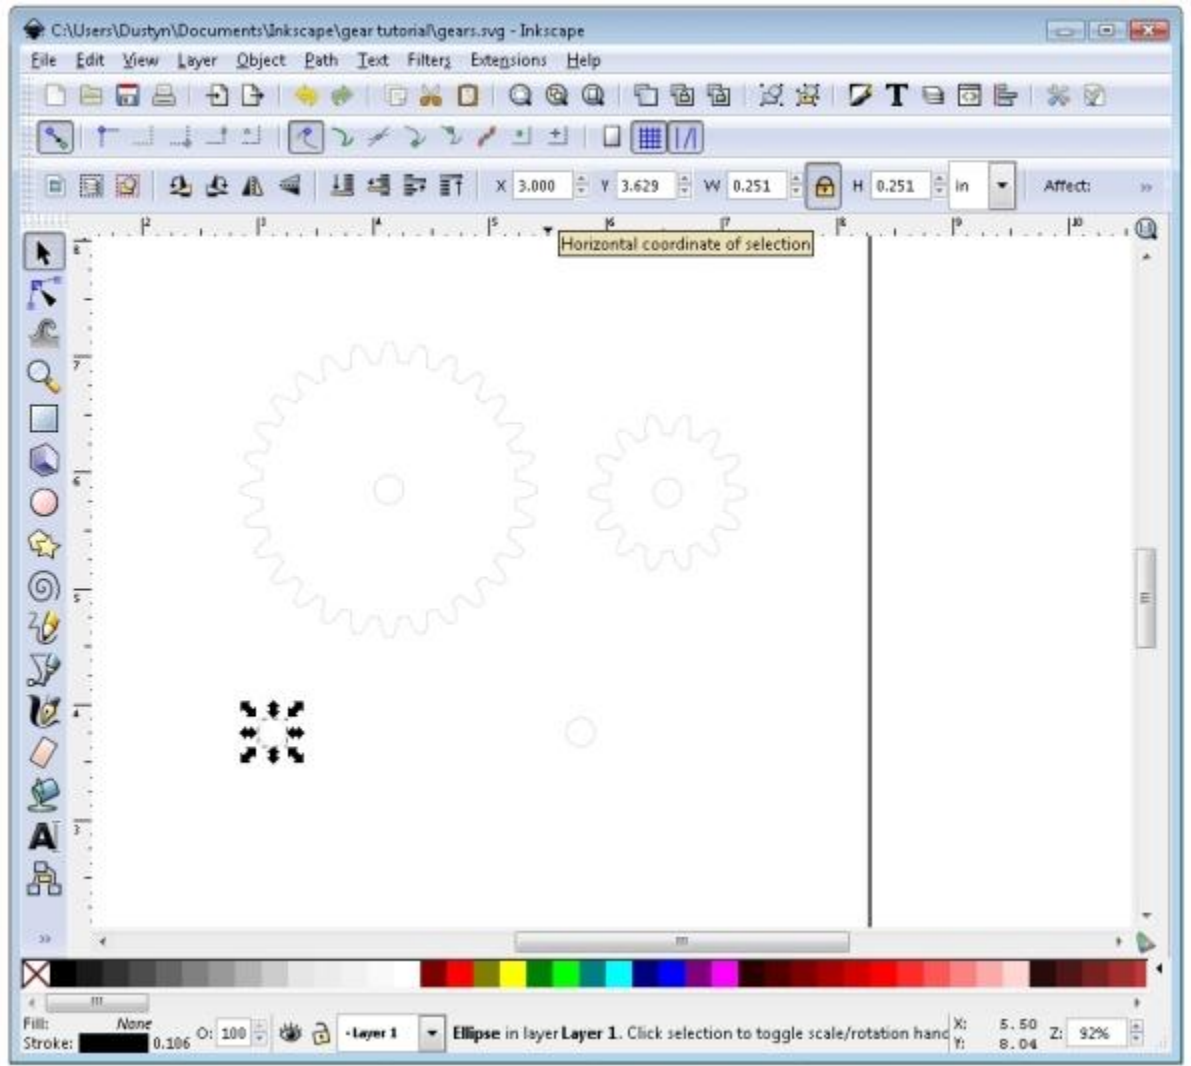

Figure 7
1. First, we need to calculate what the center distance (CD) of our gears is using the equations from the table. Both of our gears have a circular pitch of 24 px, a pressure angle of 20°. The big gear has 28 teeth and the small one has 14. In the note on step 4, we converted the circular pitch in pixels to a diametral pitch in inches of 11.781. If we look at the table, all we need is that number and the numbers of teeth on the two meshing gears to find the center distance (CD). Use the equation $CD = (N1 + N2)/2P$ and you'll find that $CD = 1.783$.
2. Now, copy one of the circles inside the gears, and paste two of them about two inches apart on the lower part of the template. Select the one farthest to the left, and change the X coordinate in the toolbar to 3 inches, then hit enter. Your screen should look like Figure 7.